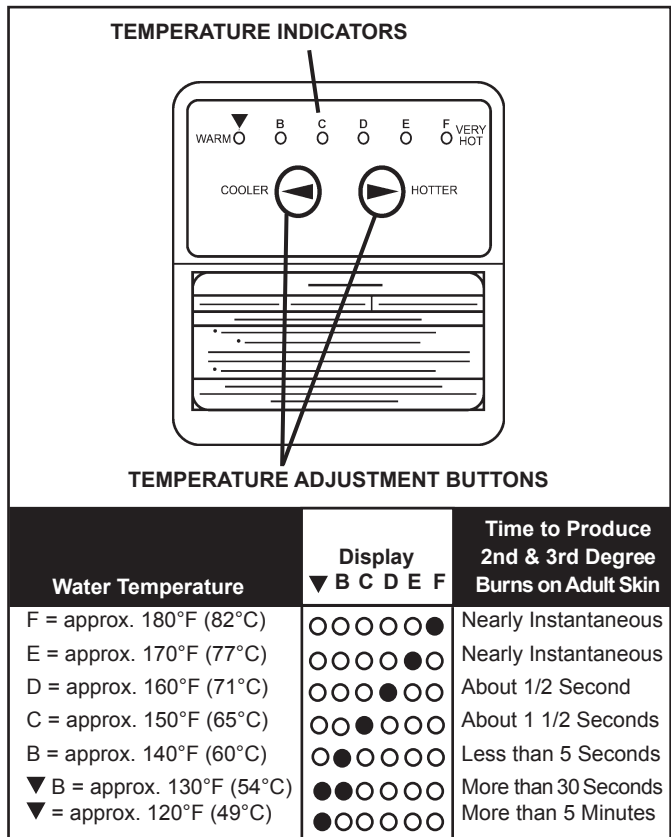

FIGURE 26.
**HOT WATER CAN SCALD:** Water heaters are intended to produce hot water. Water heated to a temperature which will satisfy space heating, clothes washing, dish washing, and other sanitizing needs can scald and permanently injure you upon contact. Some people are more likely to be permanently injured by hot water than others. These include the elderly, children, the infirm, or physically/mentally handicapped. If anyone using hot water from this heater fits into one of these groups or if there is a local code or state law requiring a certain temperature water at the hot water tap, then you must take special precautions. In addition to using the lowest possible temperature setting that satisfies your hot water needs, a means such as a mixing valve, shall be used at the hot water taps used by these people or at the water heater. Mixing valves are available at plumbing supply or hardware stores, see Figure 2. Follow manufacturer's instructions for installation of the valves. Before changing the factory setting on the thermostat, in this manual, see Figure 26.
1. "Wake Up" the temperature indicators by holding down both "COOLER" and "HOTTER" temperature adjustment buttons at the same time for one second, see Figure 26. One or two of the temperature indicators will light up. These indicators will only remain on for 30 seconds if no further buttons are pressed. After 30 seconds the control will go back to "Sleep" mode.